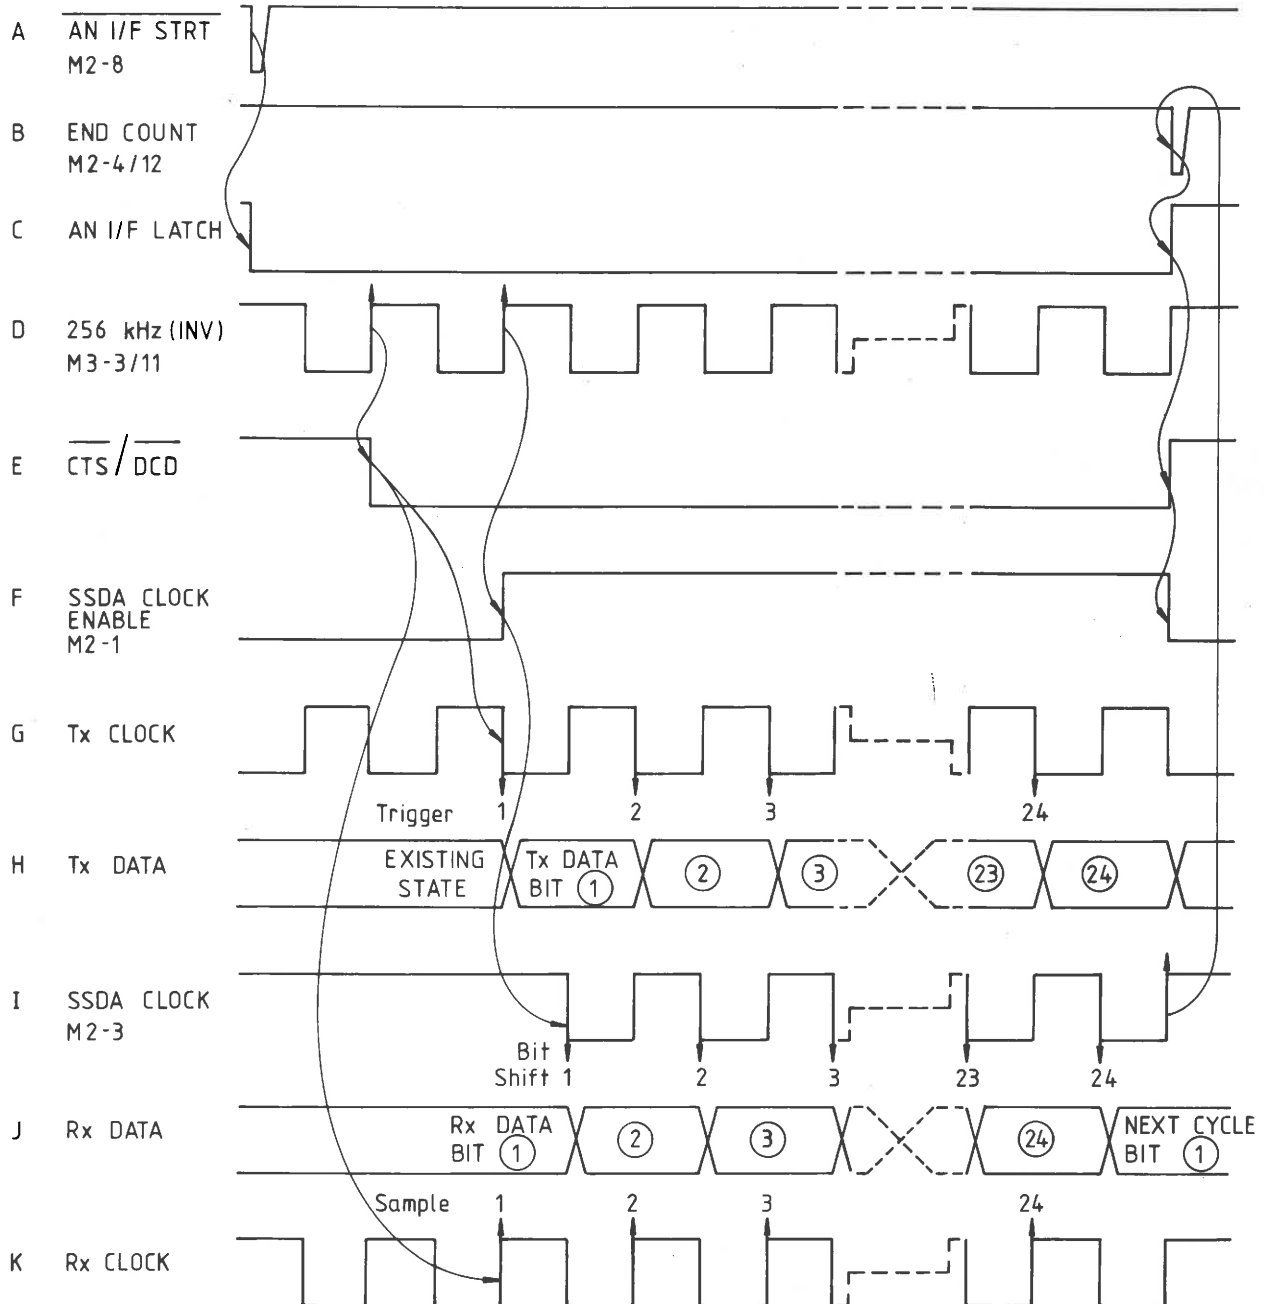

FIG. 4.20 SSDA CLOCK GENERATOR WAVEFORM
- (1) Sets the D input level of flip flop M3-5;
- (2) Removes 'set' to enable flip-flops M3 at M3-6 and M3-8;
- (3) Removes 'reset' to enable counters M4 at M4-7 and M4-15. (Refer to Fig. 4.20 Waveforms And C)
4.5.4.1 SSDA, Tx and Rx Clock Action (Fig. 4.20)
The three clocks are derived from the 256 kHz square wave output from the 13-bit counter (Circuit drawing No. 430443 sheet 2): The 256 kHz squarewave is used directly as "Tx clock" into the SSDA. The negative transition of the first full positive pulse after $\overline{\text{CTS}}$ is set to logic-0; triggers the first serial Tx data bit setup (Refer to Fig. 4.20 waveforms G and H).
"Rx clock" is an inverted version of the 256 kHz squarewave. The positive transition of the first full Rx clock cycle, after $\overline{\text{DCD}}$ is set to logic-0; triggers the SSDA to sample the first Rx data bit before the first SSDA clock has triggered the shift registers. (Refer to Fig. 4.20 waveforms K and J)
"SSDA clock" is also an inverted version of the 256 kHz squarewave. The inversion allows approx. 2mS of data setup time for all serial data bits prior to clocking the data along the shift registers. SSDA clock is gated at M2-3 by the action of M3-12 to ensure that the first Rx data is sampled before it is lost by the first bit-shift. 24 SSDA clock pulses are counted by M4, allowing 24 bits to be shifted before resetting AN I/F start latch M2-11 (TP3) to logic-1. (Refer to Fig. 4.20 waveform I).
At the next rising edge of the inverted 256 kHz (Rx clock) from M43-8 after AN I/F STRT, the two flip-flops M3 are clocked but only M3-1 "Q" output changes state to logic-0. This is applied to the SSDA $\overline{\text{CTS}}$ and $\overline{\text{DCD}}$ inputs, thus releasing the inhibits on the SSDA transmit and receive registers. (Refer to Fig. 4.20 Waveforms D and E). At the next (second) rising edge of the clock to flip-flop M3, M3-12 changes to logic-1. This allows NAND M2-3 to pass 256 kHz clock pulses via buffer M5-12 to the reference divider pcb for the analogue-control and status shift registers. (Refer to Fig. 4.20 Waveforms D, F and I). The 256 kHz clock at NAND M2-3 is applied to the 4-bit up-counter clock input at M4-1, each rising edge causing the counter to increment by 1. The divide-by-16 output M4-6 is applied to the enable input at M4-10; the falling edge of this output occurs at count-16 and increments the second counter to give, at M4-11, a logic-1 output. At count-24, M4-6 changes again to logic-1, and together with M4-11 output, gives a logic-0 from NAND M2-4, causing the following actions:
- (1) Flip-flop M2-12 is reset to give logic-1 at TP3.
- (2) The logic-1 at TP3 sets flip flops M3 to give: logic-1 at M3-1, thus inhibiting DCD and CTS; and logic-0 at M3-12, stopping NAND M2-3 passing any further SSDA clocks.
- (3) The logic-1 at TP3 resets the up-counters M4 causing: the counter outputs to fall to logic-0, inhibiting further counting; and NAND M2-5 to logic-1, pre-setting flip-flop M2-12 to prepare for the next AN I/F STRT input. (Refer to Fig. 4.20 Waveforms I, B, C, E and F).